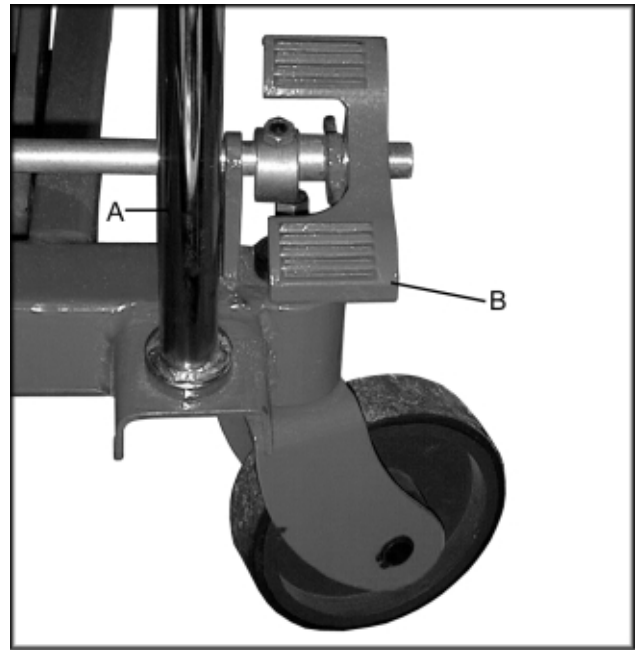
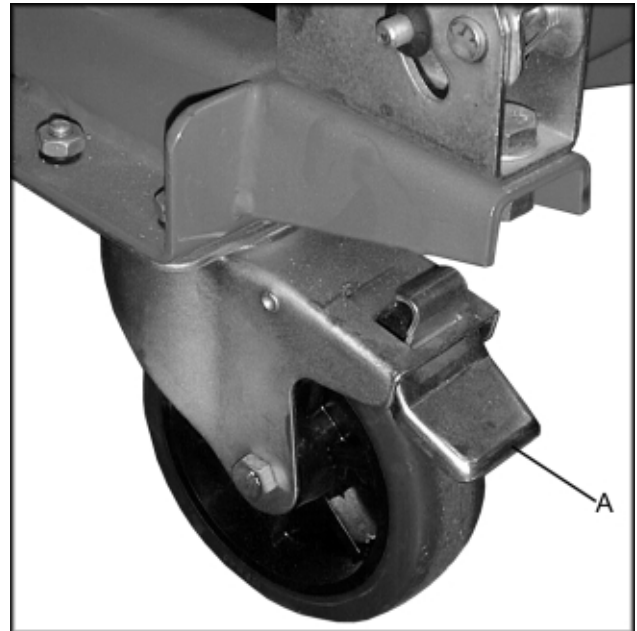

Fig. 1
Fig. 2
1. Attach the handle (A, Fig. 1) to the frame using two hex cap bolts, two lock washers, two flat washers. Tighten with a 19mm wrench.
Note: The two pivoting casters can be locked so they do not rotate. Press foot lever (B, Fig. 1 for SLT-1650) down to lock. Press foot lever (A, Fig. 2 for SLT-660F) down to lock.